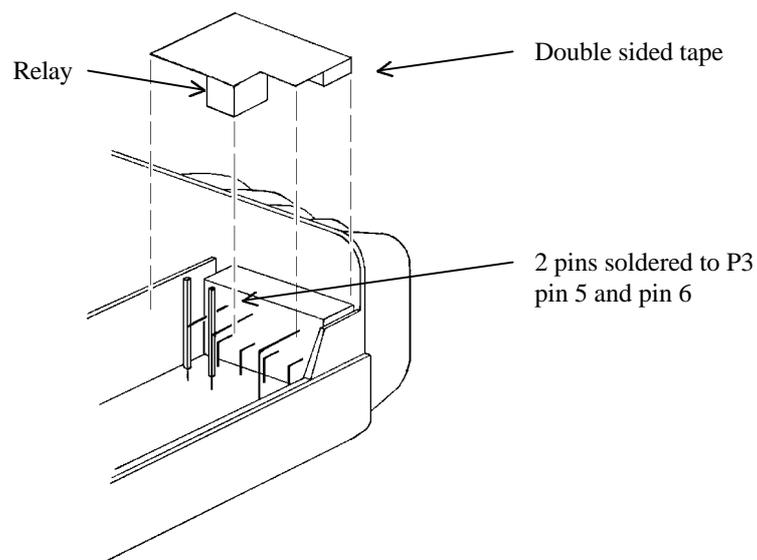

Figure 1 Installing a A2000-AD to a T2000 radio.
- (iii) Solder two pins to the T2000 power connector P3 pins 5 and 6. Stand the pins vertically as shown in Figure 1.
- (vi) Using double sided tape mount the A2000-AD PCB as shown in Figure 1 inserting pins soldered to the power connector in step (iii) to GND and 13.8V holes on the A2000-AD PCB. Solder the GND and 13.8V pins and cut off any excess pin length.